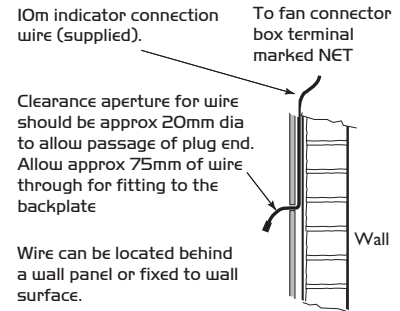

Figure 1.
- Select a suitable location for the indicator and arrange the cable in position. Leave approx. 75mm of the cable free at the mounting point to ease the connection of the plug. (fig. 1).